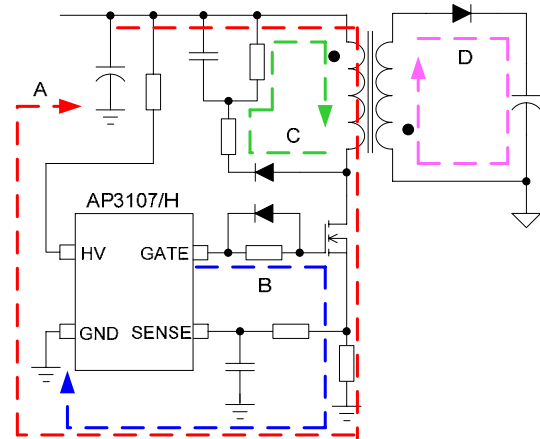

Figure 5. High Current Loop
A proper PCB layout can abate unknown noise interference and EMI issue in the switching power supply. Shown as Figure 5, there are four main huge high frequency current loops:
1. The current path from bulk capacitor, transformer, MOSFET,  $R_{CS}$  returning to bulk capacitor, path A in Figure 5;
2. The path from GATE pin, MOSFET,  $R_{CS}$  returning to the ground of IC, path B in Figure 5;
3. The RCD clamp circuit is a high frequency loop, path C in Figure 5;
4. Transformer, rectifier diode, and output capacitor is also a high frequency current loop, path D in Figure 5.